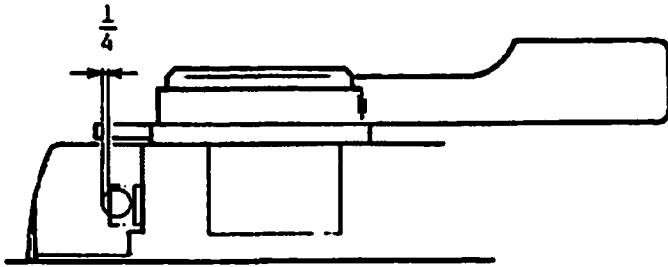

Fig. 141
- 2) At released position, Preventive lever shall appear until it covers the hole more than $\frac{3}{4}$ as shown in Fig. 141.